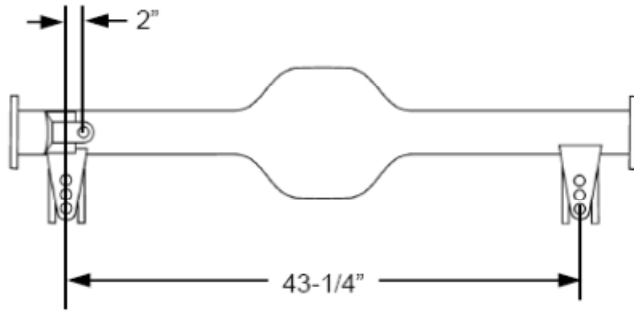
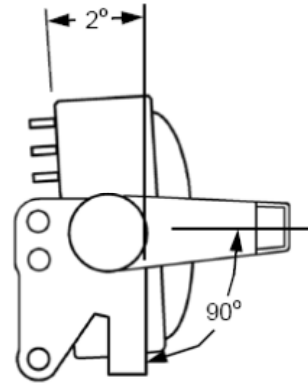

Figure 4- Panhard Bracket location
Figure 5- Pinion Angle
- 4.) If you are installing the 4-link and Panhard brackets on your own housing, they are located 43-1/4" apart. They are centered equal distance from the outer ends of the housing. See **Figure 4**. The Panhard bracket is positioned as shown in **Figures 4 & 5**. If you purchased an axle housing from HEIDTS, the brackets are already installed with a 2° down pinion angle. You can then fine tune the angle to match your engine. See **Figure 5**.